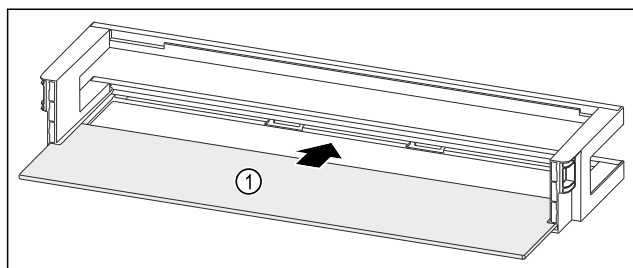

Fig. 119 Door rack with shelf
- Push the shelf Fig. 119 (1) into the side recesses.